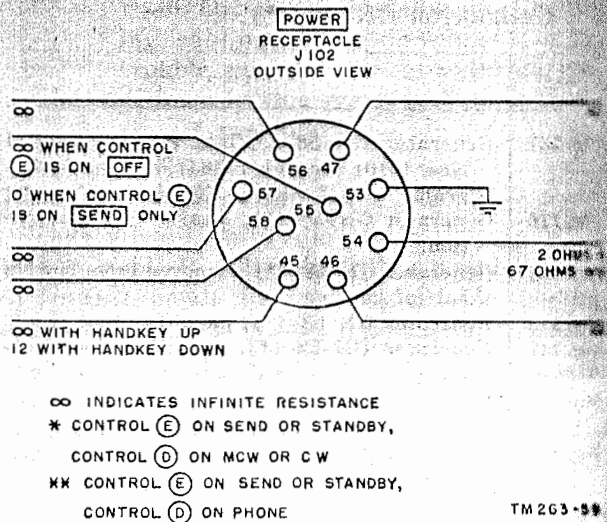

Figure 93. Transmitter power socket resistances to ground.
b. TRANSMITTER POWER SUPPLY CIRCUITS (figs. 80, 81, 82, and 93). Disconnect power cables, Cords CD-1086 and CD-1119, from the transmitter and remove the key and microphone from their jacks. Check the resistances to ground of the contacts of the transmitter POWER socket (fig. 93). If the readings shown are not obtained, *do not* apply power to the radio set; trace the circuits to see where the trouble is located. Otherwise, damage may be done to the power supply. Correct all conditions leading to abnormal readings before applying power to the radio set.